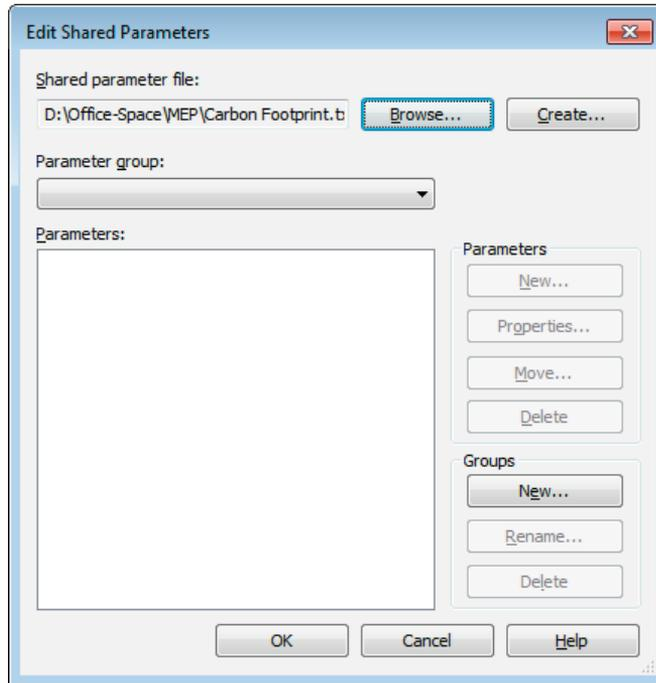

Figure 2-31 The *Edit Shared Parameters* dialog box
- e. Create the Project Parameter, refer to Figure 2-31.
- Choose the **Shared Parameters** tool from the **Settings** panel of the **Manage** tab; the **Edit Shared Parameters** dialog box is displayed, as shown in Figure 2-31.